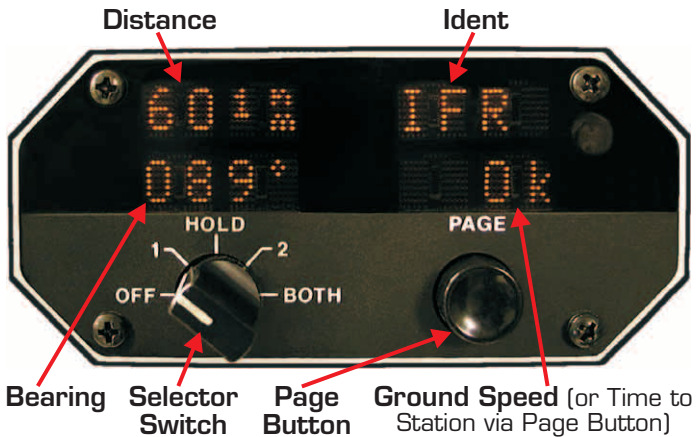

Figure 2-4. L-3 TACAN Indicator Model ID-2502(V)
The AN/ARN-154(V) requires a TACAN indicator or navigation instrument display to display the navigation information gathered and processed by the RT-1634(V). L-3 offers many versions of its ID-2502(V) TACAN indicator (figure 2-4) to meet this requirement including some NVG-compatible versions.